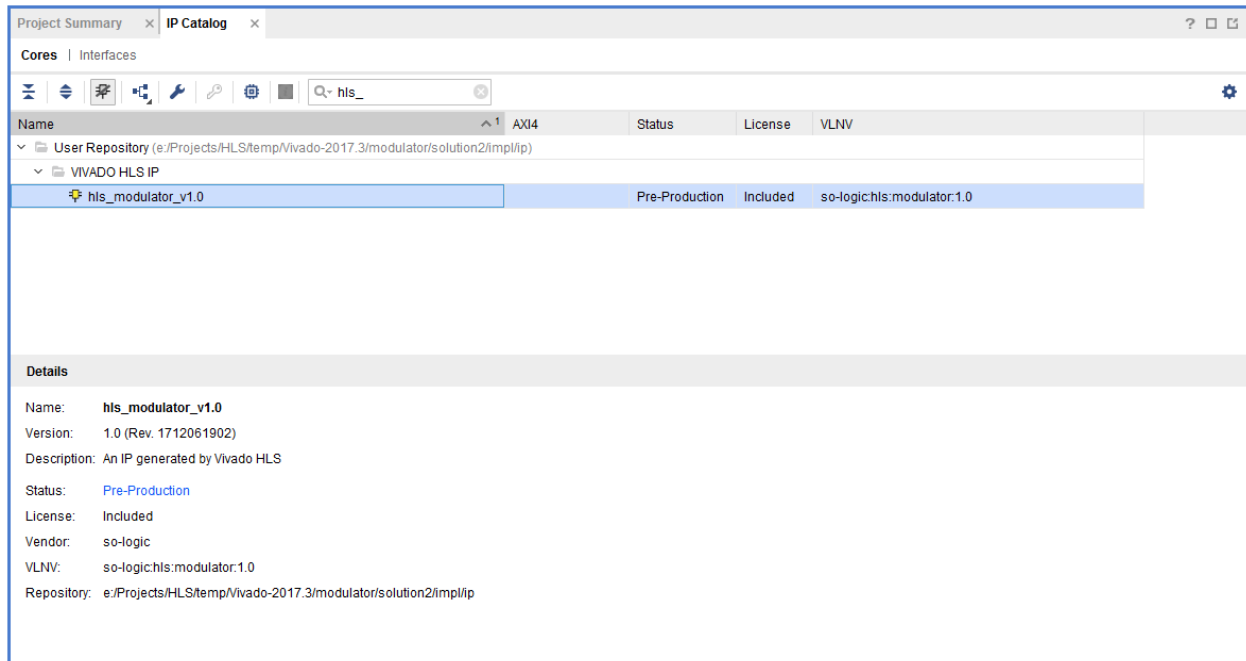

Figure 3.1: IP Catalog with added hls_modulator_v1.0 IP core
10. In the **Flow Navigator**, under the **Project Manager**, click **IP Catalog** command to verify the presence of the previously created IP in the IP Catalog. In the **Search** field type the name of the IP core (in our case **hls_modulator_v1.0**) and you should find it under the VIVADO HLS IP section, see Figure 3.1.